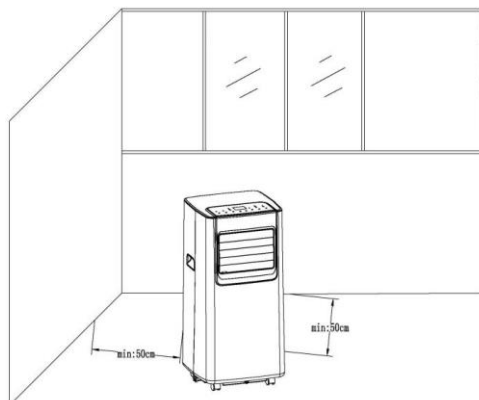

Fig. 2
- 1 ) Move the machine with installed exhaust pipe to the window. The distance between the body and walls or other objects should be least 50 cm (as shown in Fig.2)